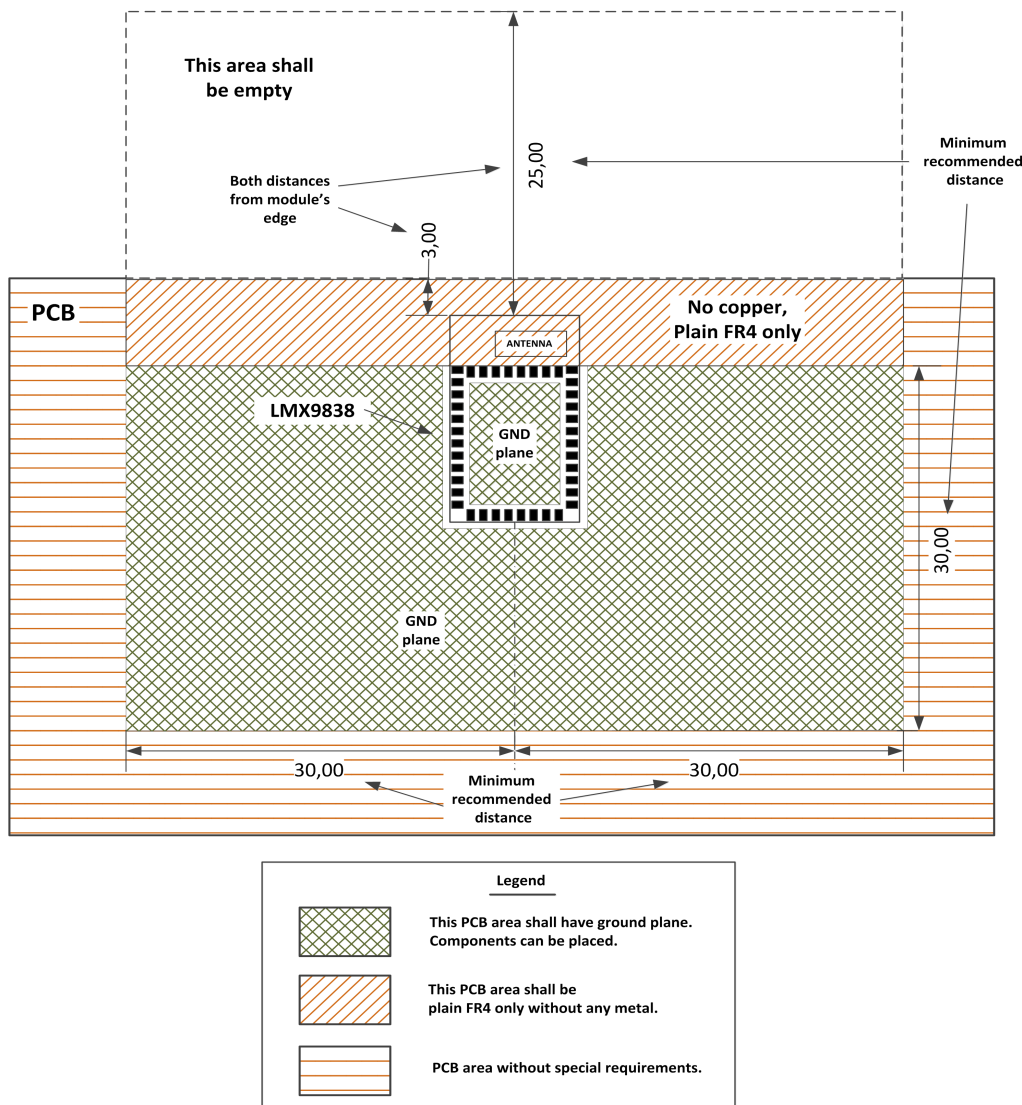

Figure 1. Module placement guideline
Being small means that the antenna can be easily detuned if it is not placed correctly. The antenna has been optimised to work with FR4 material without metal layers underneath. This means that FR4 material only should be placed under the antenna part of the module as shown on Figure 1. Also we recommend having FR4 material only (without any metal layer) on all layers underneath the antenna part of the module. Figure 1 also shows the optimal module placement on a PCB giving some dimension guidance.
- For the internal antenna in the module to operate to its maximum efficiency then the PCB area around the antenna should be cut away. It is recommended to place the end of the module flush to the edge of the PCB and to route the PCB out around the antenna end, see Figure 1.